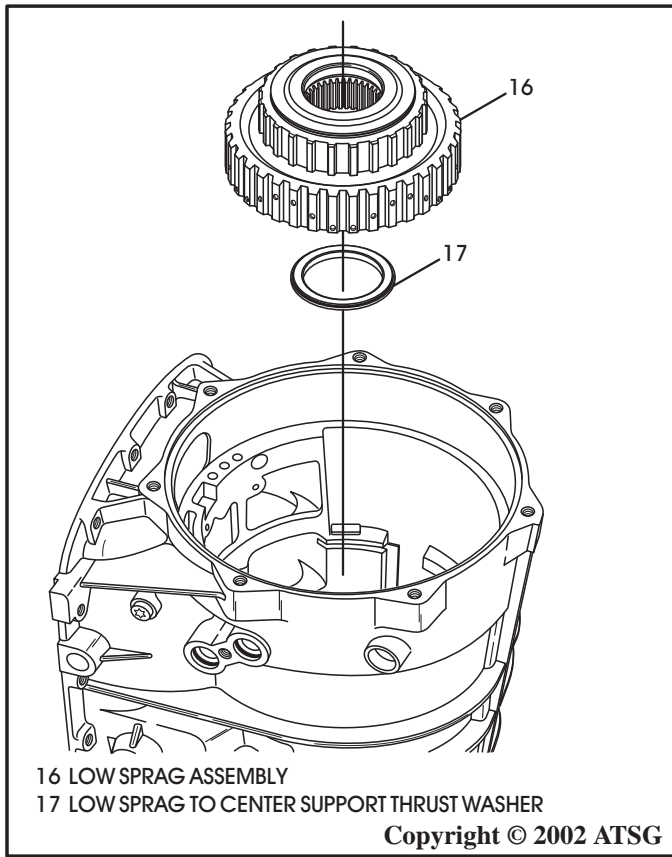

Figure 51
44. Remove the low sprag assembly and the thrust bearing, as shown in Figure 51, and set aside for component rebuild section.